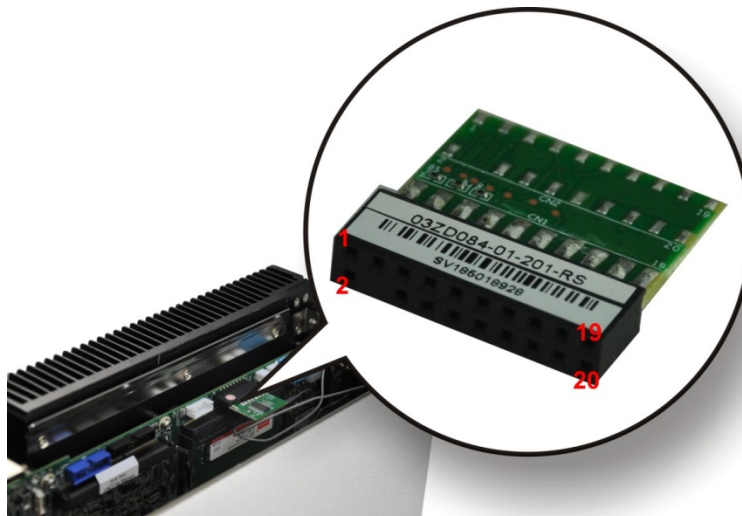

Figure 3-28: TPM Module Installation
Step 3: Insert the TPM module. Make sure that pin 1 on the TPM module corresponds to pin 1 on the TPM connector (**Figure 3-28**).
Step 5: Remove the retention screws on the expansion slot bracket. See **Figure 3-28**.